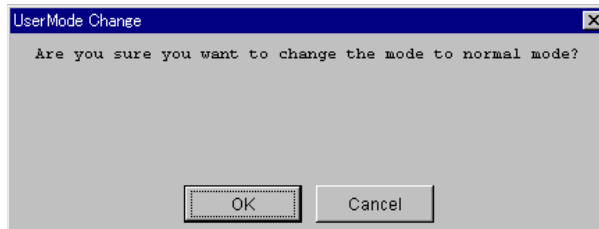

Figure 4.8 User Mode Change Confirmation Dialog Box
2. Click **OK** on the **User Mode Change** confirmation dialog box (see Figure 4.8).